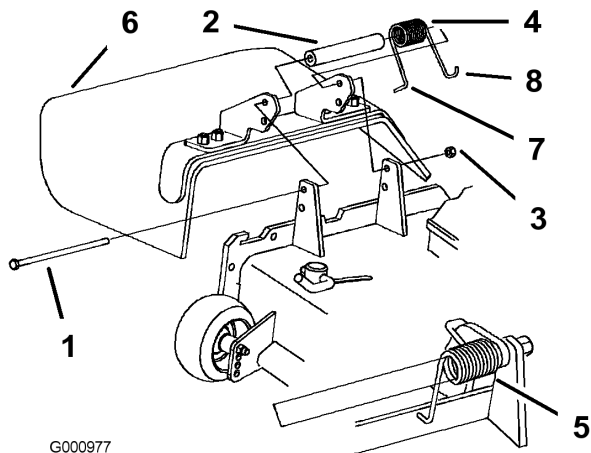

Figure 79
1. Remove the locknut, bolt, spring and spacer holding the deflector to the pivot brackets (Figure 79). Remove the damaged or worn grass deflector.
Note: Make sure the L end of the spring is installed behind the deck edge before installing the bolt as shown in Figure 79.
3. Install the bolt and nut. Place the **J** hook end of the spring around the grass deflector (Figure 79).